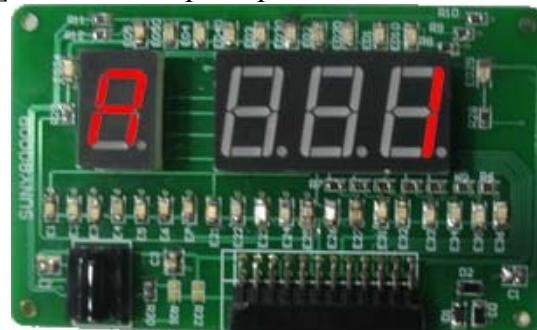

Fig. 3
- Press [GN] button, panel shows as Fig.3.